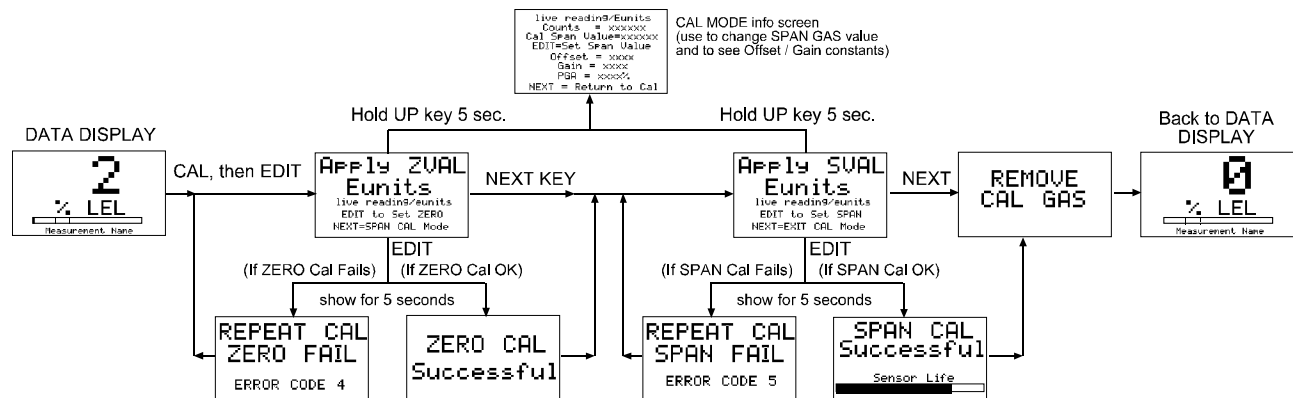

Figure 5-1: Calibration Flowchart
3. The screen will display an APPLY ZERO message. Using the setup shown in Fig. 5-1, apply clean ZERO air unless it can be guaranteed that no target gas is present. After the reading stabilizes, press the EDIT key to complete the ZERO calibration.